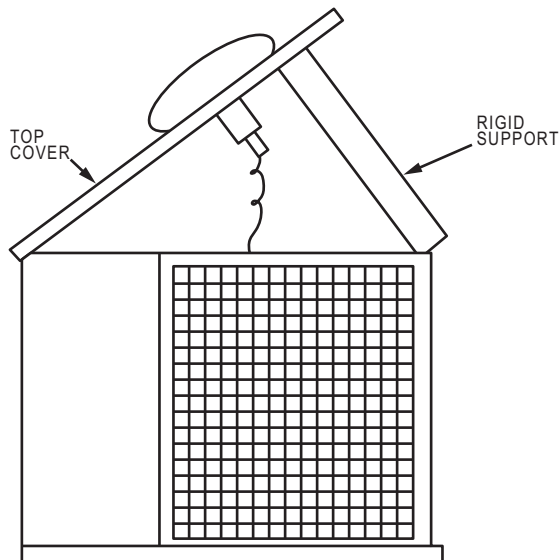

Fig. 36 — Pivot and Support Top Cover
2. Remove screws holding rear corner post and top cover in place. Pivot top cover up 12 to 18 inches (305 to 457 mm) and support with a rigid support. See Fig. 36.